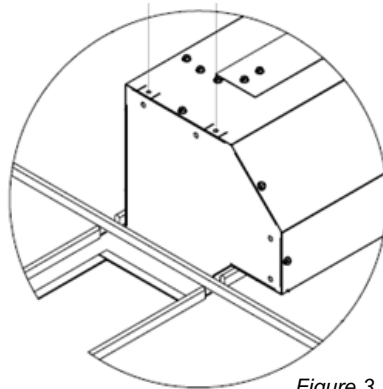

Figure 3
1. Prepare the T-track to receive the fixtures. VideoPlus fixtures are either a nominal 6-in x 2-ft (150-mm x 600-mm) or 6-in x 4-ft (150-mm x 1200-mm) size. It may be necessary to add additional track sections and or prepare differently sized ceiling tiles. For ease of installation, a minimum of 8-in (200-mm) of clearance height above the track is recommended. Make sure that the T-track is sufficiently braced to accept the weight of the fixtures; these units are heavier than typical fixtures. Note the overhang on Videoplus (Figure 3).
3. Install “safety wires” to the tabs on the top of the fixtures and attach to the building structure, in compliance with local codes (Figure 3 & 5). DO NOT rely on the T-track alone to hold the weight of the fixture.